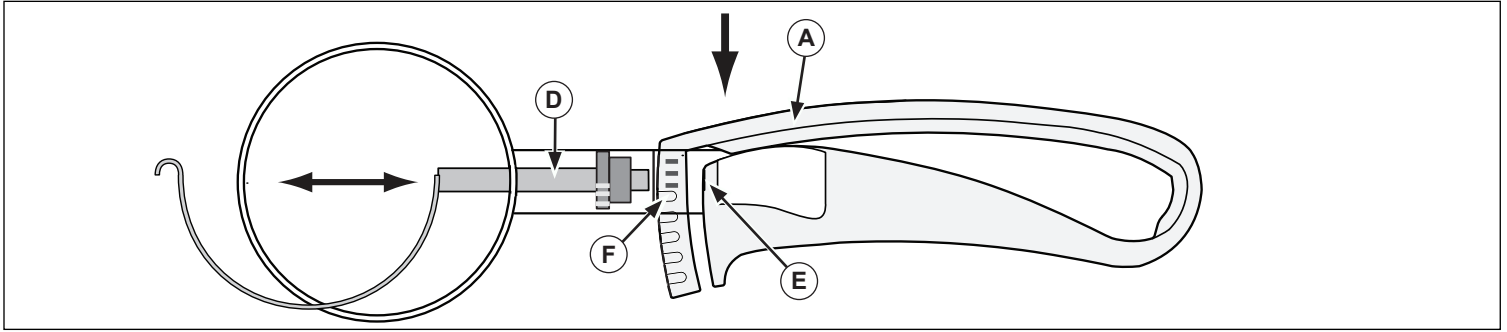

Figure 4. Sweep Assembly, Handle, Pivot Hole and Rack.
4. Continue to hold the handle (A) in the fully compressed position. Slide the sweep assembly (D) out of the pivot hole (E) until it is clear of the rack (F). See Figure 4.
9. Slowly push down and hold the handle (A) and hold in the fully compressed position. Align the last gear on the sweep assembly (D) with the last hole on rack (F). Slide the sweep assembly (D) into the pivot hole (E). See Figure 4.